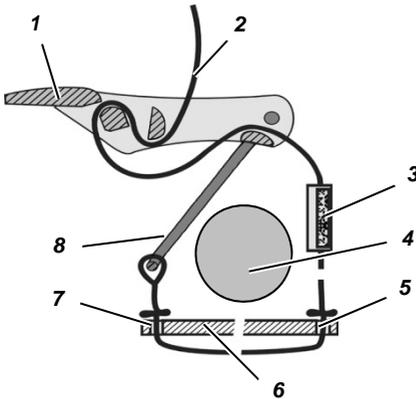

Fig. 43 Short cylinder strap
- (1) Thread the cylinder strap (→ Fig. 43) firstly through the slot in the back plate (on the right hand side of the equipment carrier), then through the left hand slot in the back plate and then through the cylinder bracket - align the cylinder bracket vertically.
- (2) Push the Velcro strap onto the cylinder strap with the fluffy side facing outwards.